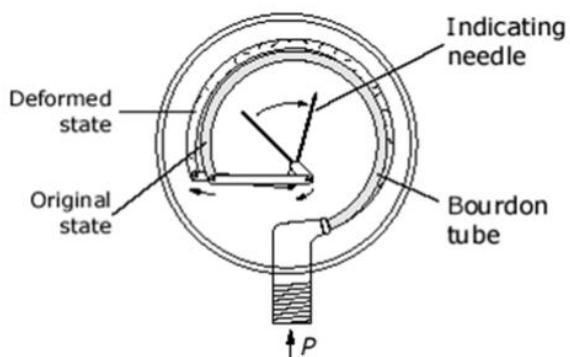

Figure 2
I. Bourdon Gauge: The Bourdon Gauge (Figure 2) is fitted with a transparent dial, which lets you see the internal workings of the gauge. The gauge consists of a thin walled closed ended tube which is oval in cross section. This tube is bent through an angle of about 270° along its long axis. The open end of the tube is welded to a hollow mounting block which allows the pressurized fluid to reach the tube. This causes the pressure from the source to be transmitted directly to the inside of the bourdon tube. The applied pressure causes the oval tube to become rounder (since a round cross section has the maximum area for a given circumference). As it becomes rounder, the bourdon tube tends to uncurl which causes its free end to move. A system of linkages and levers transmits this motion to the gauge needle which moves over the scale.